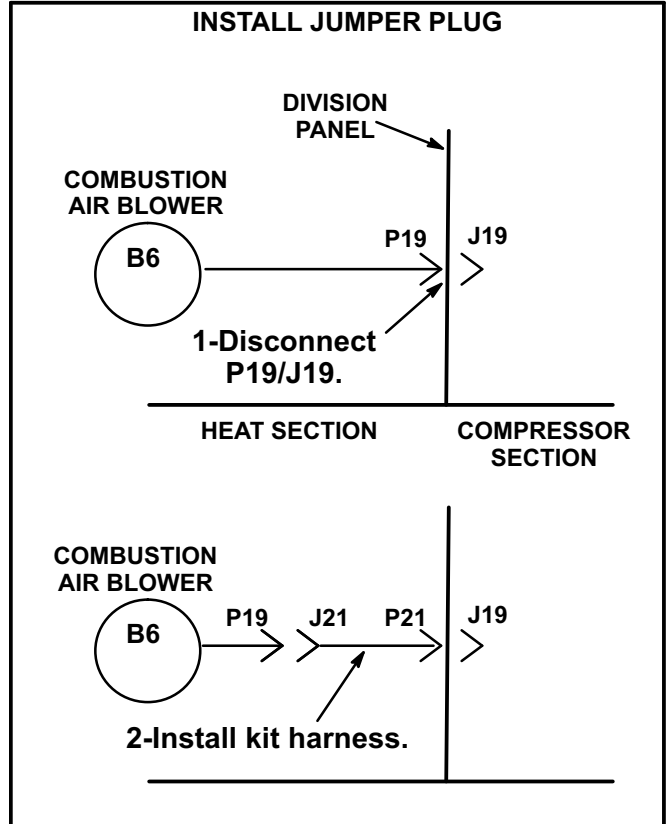

FIGURE 7
- 5- Install kit harness between disconnected plugs. See figure 7.